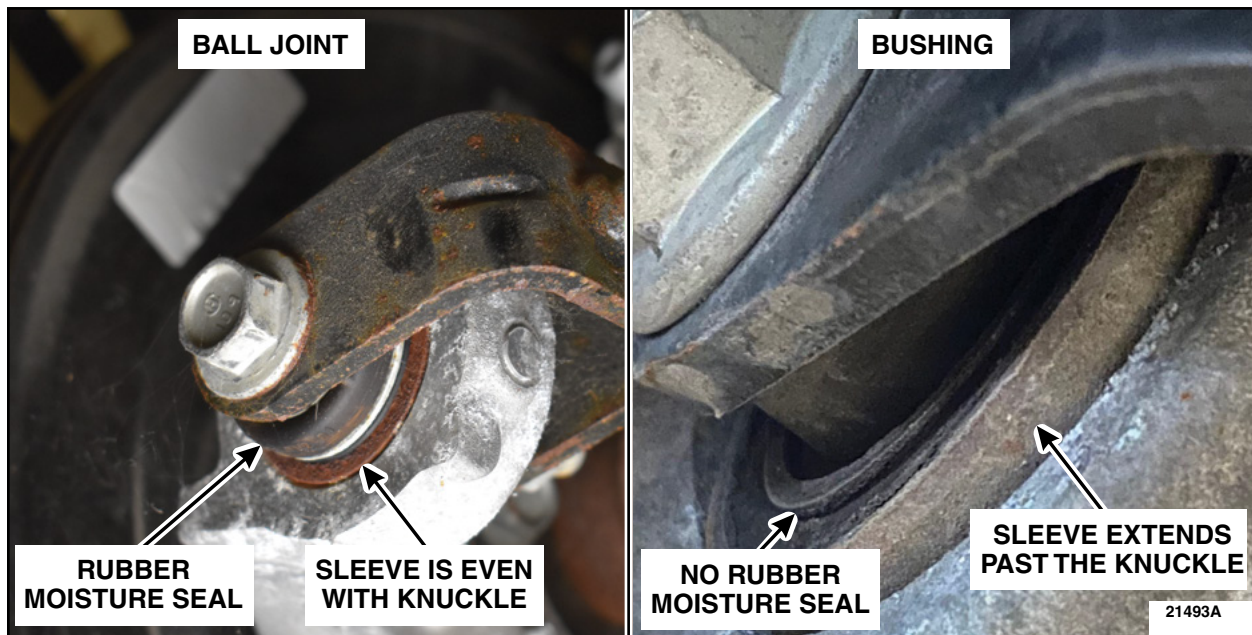

FIGURE 1
2. Inspect the rear toe link at BOTH rear wheel knuckles to determine if the knuckle is equipped with a ball joint or bushing. A ball joint can be identified by both a rubber moisture seal covering the connecting joint and the ball joint sleeve extending past the surface of the wheel knuckle. See Figure 1.